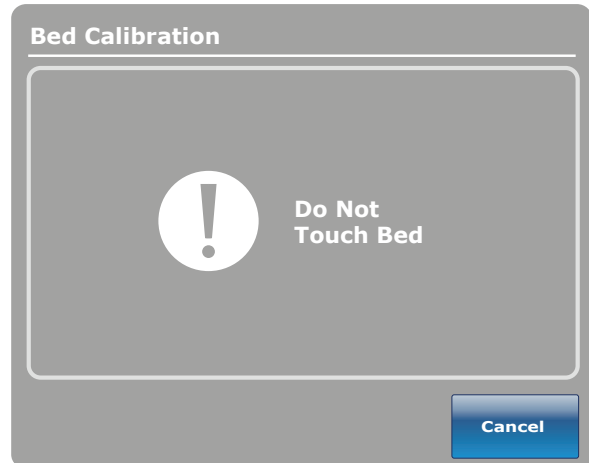

Figure 22: Do Not Touch Bed Screen
26. The “Do Not Touch Bed” screen will appear as shown in Figure 22.